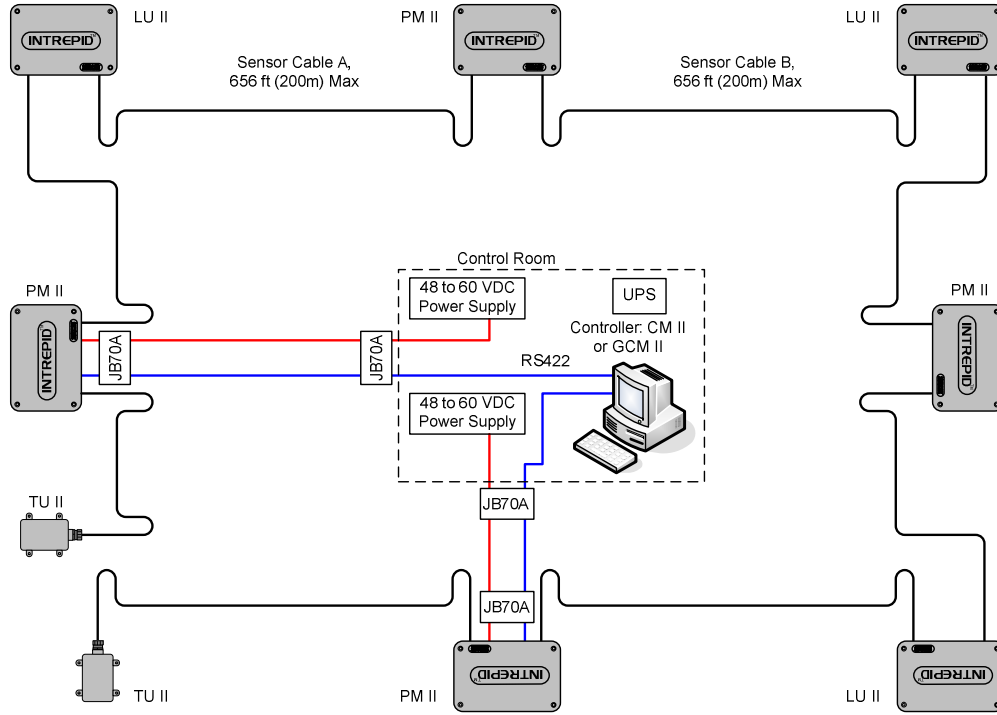

Figure 3.5 – Multiple PM II System in Fault Tolerant Configuration
Figure 3.5 shows a system in the “Fault Tolerant” configuration. In this configuration the CM II or GCM II controller will poll the system from both directions. This configuration serves as a redundant communication system in the event of any failures or cut cables. Two (2) power supplies are required.